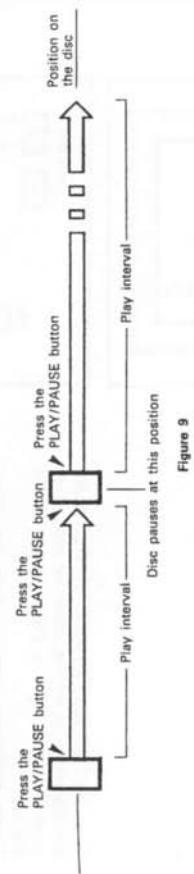

Figure 9
- (5) Description of the PLAY/PAUSE, and CUE Operations
- The steps through which disc play is performed when the PLAY/PAUSE and CUE buttons are pressed are described with the aid of the following illustrations in Figures 9 through 11.
Pressing the PLAY/PAUSE button starts the disc play, the advancement of which is illustrated by the arrows of Figure 9. Pressing the PLAY/PAUSE button again during disc play causes the play operation to pause, and pressing this button once more causes the disc to be played again.